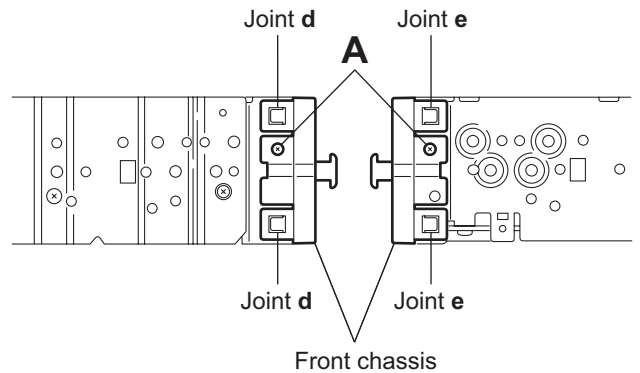

Fig.3
3.1.3 Removing the front chassis (See Fig.3)
3.2.6 Removing the cassette hanger / cassette holder (See Fig.3)